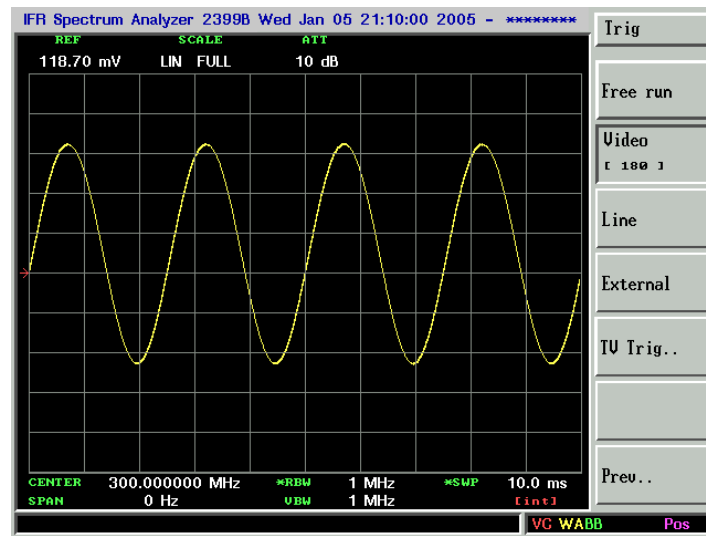

Figure 2-25. Measuring Modulation in Zero Span.
11. Adjust the sweep time to change the horizontal scale by pressing **[CPL]**, *Swp Time [MNL]*, *Swp Time*, 10 ms. See Figure 2-25.